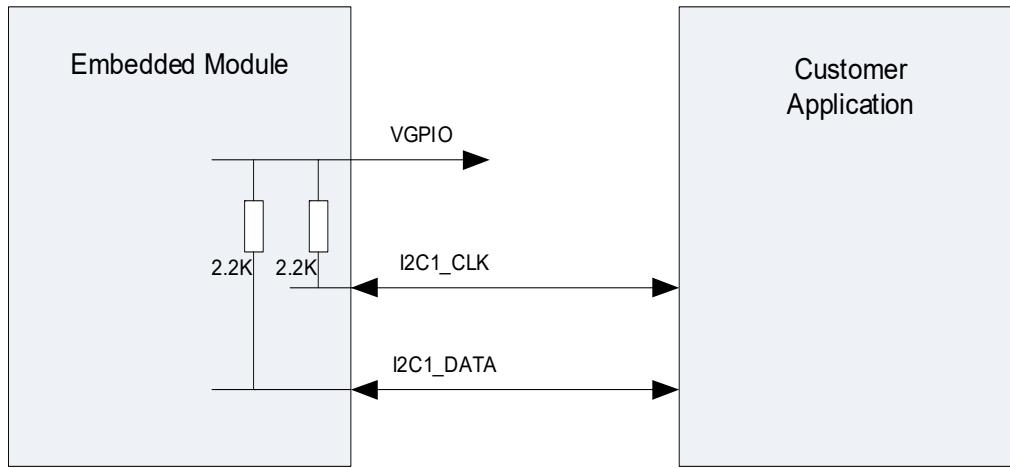

Figure 4-5: Example of I²C Bus Application
- I²C signals are implemented internally as open drain outputs (per the I²C specification) with 2.2 kΩ pull-up resistors to VGPI0 (see Figure 4-5).